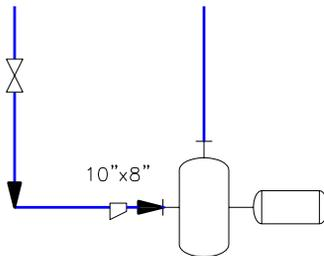

Figure 2-79 Modified size of a line
4. Modify the size of the line to 8", refer to Figure 2-79 and choose the **Assign** button from the dialog box.